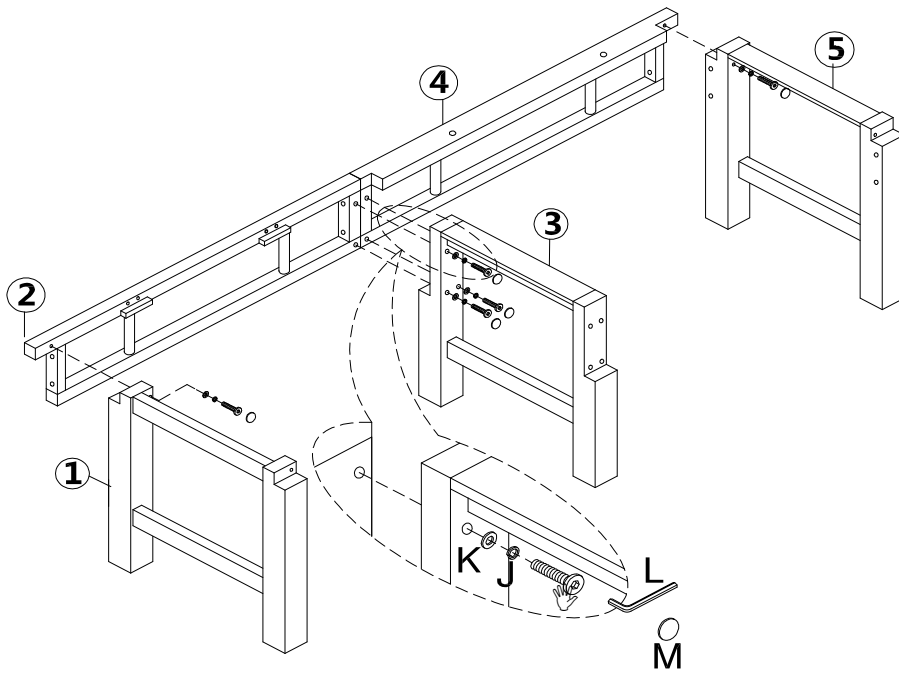

Figure 2
Attach assembled unit from Figure 2 to Left Side Frame (1), Middle Frame (3), and Right Side Frame (5) using Bolts (I), Spring Washers (J), and Flat Washers (K).